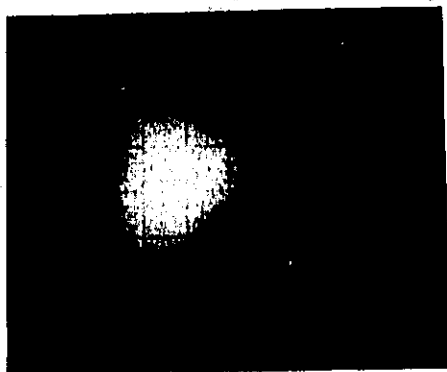

Figure 3-7. Fade positive which occurs after Pushbutton Selector is left in STD for 2 to 4 minutes.
- g. **FADE POSITIVE** — Appears as random green areas on a dark background in MAX. PERSISTENCE, Figure 3-7.